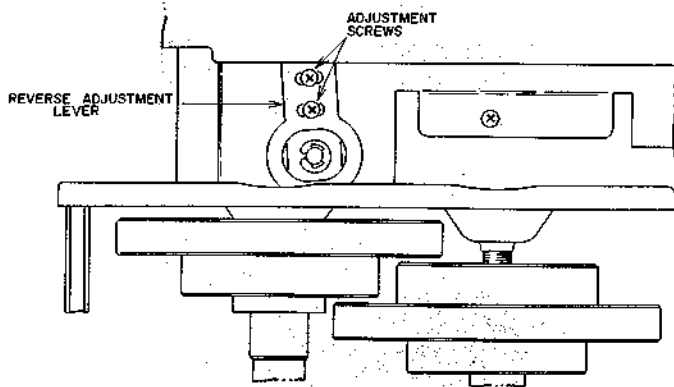
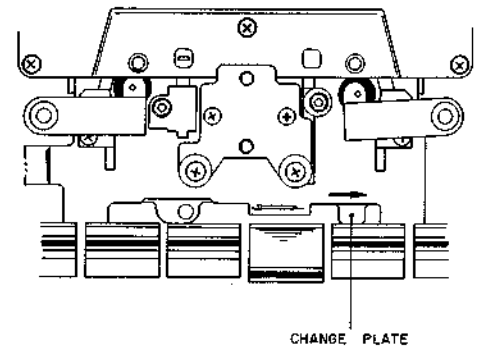

Fig. 11
Fig. 12
4. REVERSE ADJUSTMENT LEVER INSTALLATION POSITION ADJUSTMENT (Refer to Figs. 11, 12)
Loosen Fig. 11's reverse adjustment lever's screws in the REV-PLAY mode. Move the change plate, which can be seen under the head block in Fig. 12 fully to the right in the direction of the diagram's arrows and fix the reverse adjustment lever's screws.